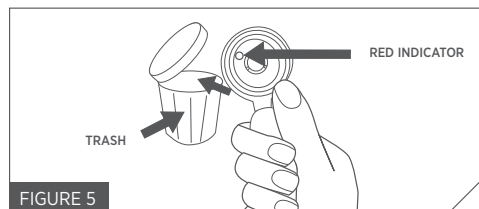

FIGURE 5
5. Dispose of the used inflator body (Fig. 5).